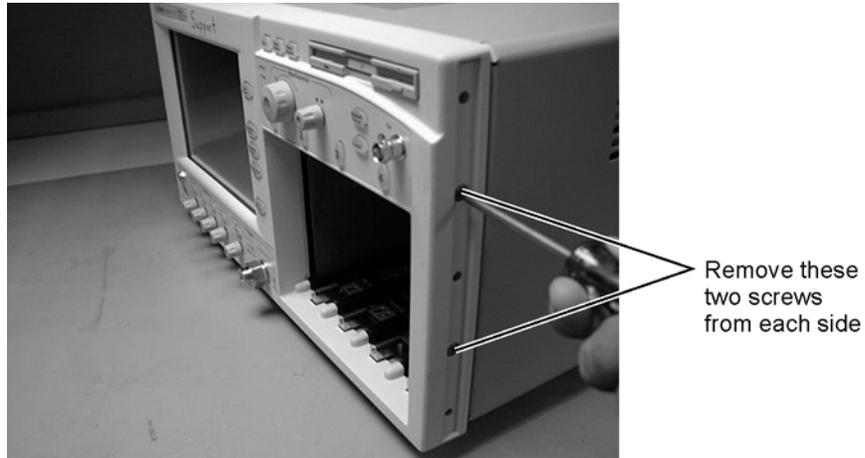

Figure 7-15. Remove the Front Panel Screws
- 3 Use the T-15 TORX driver to remove the four screws (two on each side) that secure the front panel to the mainframe, as shown in Figure 7-15.